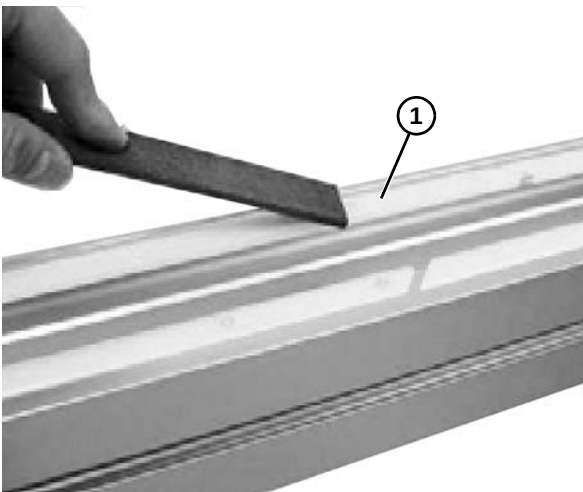

Figure 68
- Using a file, scrape off the top of the nylon set screw above the wear strip (**Figure 68, item 1**) to assure a smooth surface for the belt.